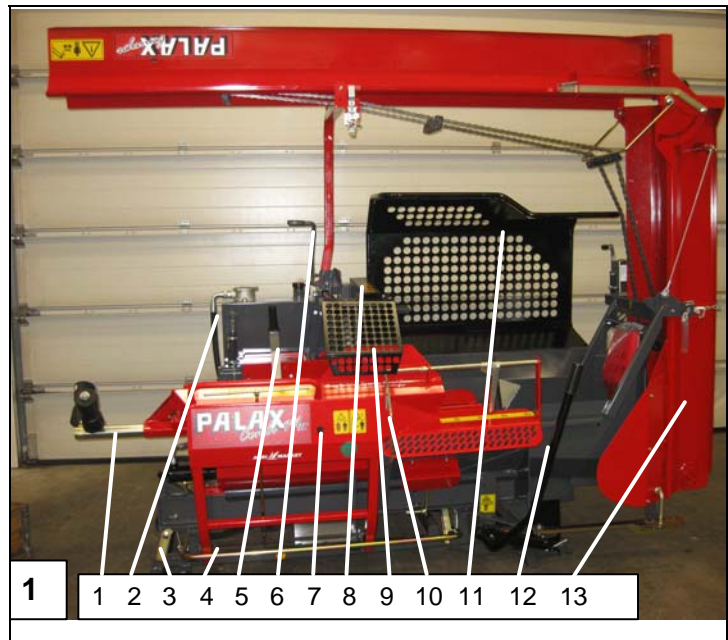

Fig. 1. Main parts of the machine
- In order to prevent transport damage, the adjustment lever for splitting wedge 12, the operating lever for log-stop 10 and the protective net for crosscut saw-blade 9 have been removed and packed separately. (Fig. 1)
Install protective net 9 as shown in Fig. 1 so that its front edges and the front edges of the protective net for splitting chute 11 come into line.